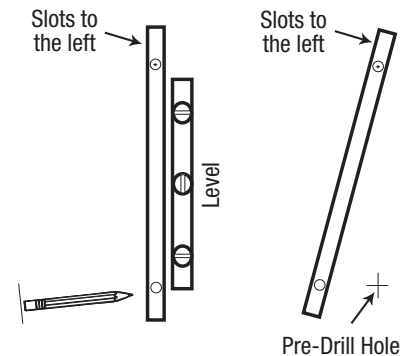

Figure 2
**Step 5:** Carefully move the bottom of the standards to the side and pre-drill the appropriate holes **Figure 2**.